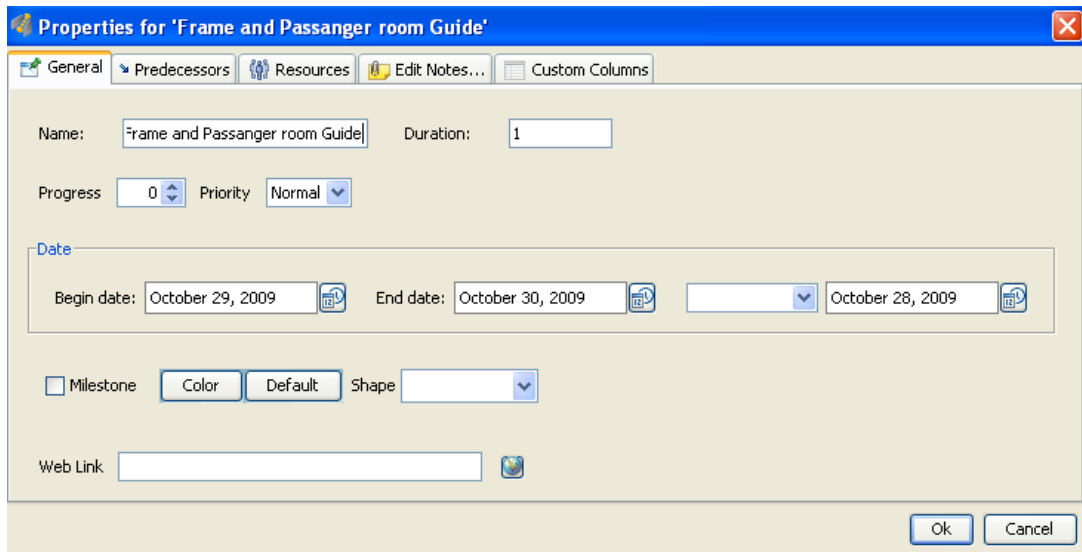

Figure 3.10: Shows a GanttProject Properties dialog box for task.
3. With the **Frame and Passenger room Guide** task still selected, click the **Task Properties** button in the toolbar to display the Properties dialog box as shown in figure 3.10. Notice that the name you specified for the task in step 5 displays in the Name text box.